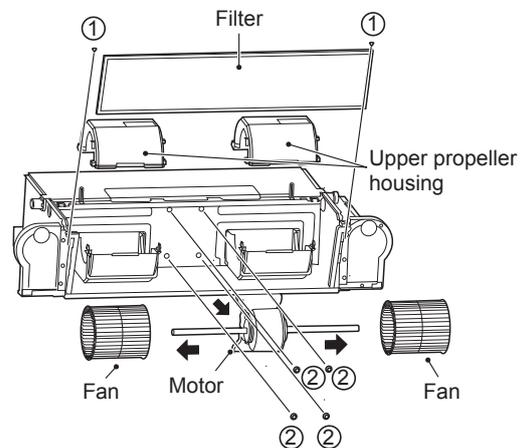

Figure 4-5 Removal of filter, upper volute and motor screws
- c) As shown in Figure 4-5, remove screws ① *2 to take the filter out. Then, remove the upper volute.